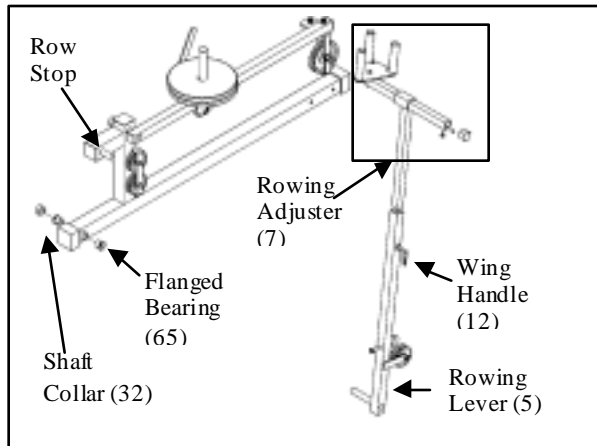
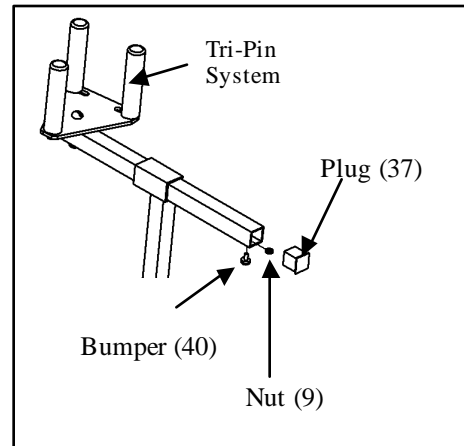

Figure 7
Figure 8
D. Rowing Lever Assembly (Figure 7)
1. Cut the plastic zip ties on the *Frame Legs* (2) where the *Rowing Levers* (5) are to be inserted.
2. Insert the *Rowing Levers* into the *Bearings* (65). Secure them with *Shaft Collars* (32) by sliding each *Shaft Collar* over the protruding *Rowing Lever* shaft and tightening the black set screw with the Allen wrench. Both *Rowing Levers* (5) should rest against the Row Stops.
3. Insert the *Rowing Adjusters* (7) into the *Rowing Levers* (5).
4. Thread the black *Wing Handles* (12) into the *Rowing Levers* (5). These handles are used to adjust the height of the *Rowing Adjusters* (7).
5. Insert the Tri-Pin system into the row adjuster as shown in Figure 8, and then screw in the *Bumper* (40) with the *Nut* (9) and put in the *Plug* (37).
Note: When you have finished installing the cable, as shown in Figure 8 there should be a gap of 2" to 3" between the truck arms and the stop. If you do not have this gap, the cable is incorrectly installed. See Figure 8.